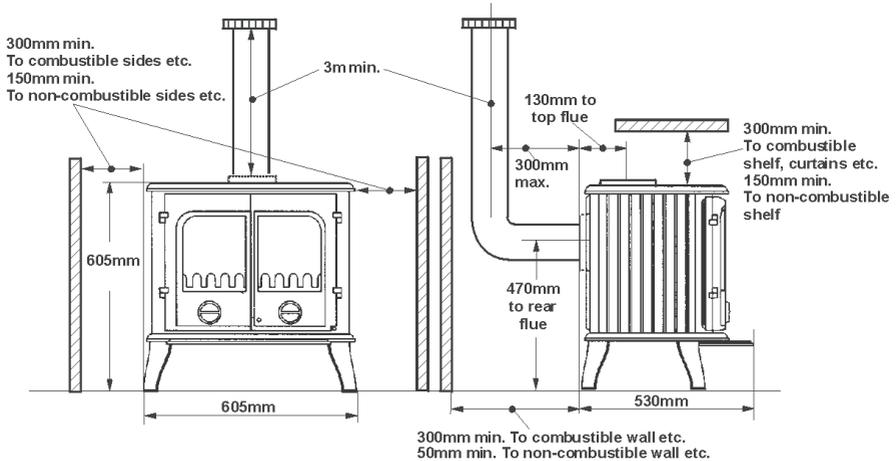

Figure 1
4. Clearances to combustible and non-combustible surfaces must be at least those shown in figure 1. Please bear this in mind if altering the room.